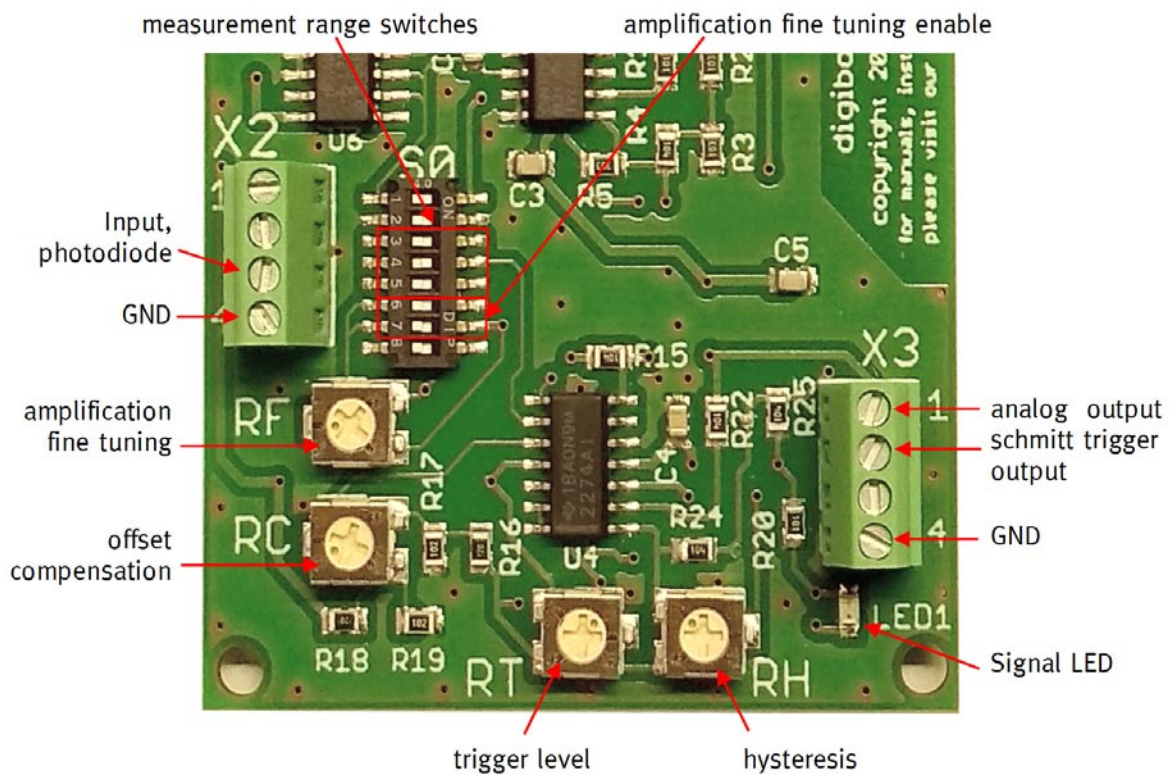

Fig. 4: Analog amplifier channel: input, output, potentiometers and switches
This channel is completely independent of the CFC and works fully bipolar. Please refer to figure 4 for the appropriate connections and controls. If you connect the anode of the photodiode to the input pin the output voltage is negative and vice versa.
2. connect the (darkened) photodiode to the input (Fig. 4)